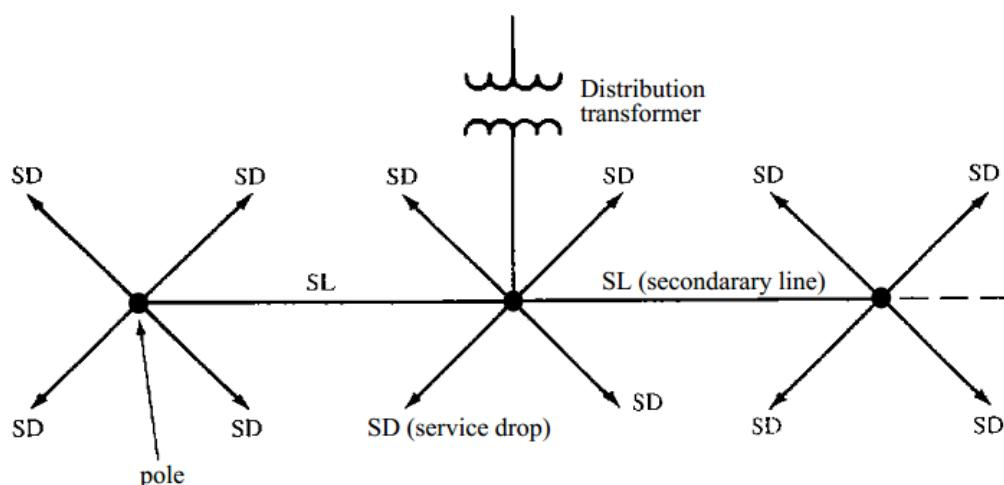

Figure 5.2
- (c) Figure 5.2 shows a pattern of secondary distribution system. Explain the costs to be considered in the calculation of total annual cost (TAC) for owning and operating such system.